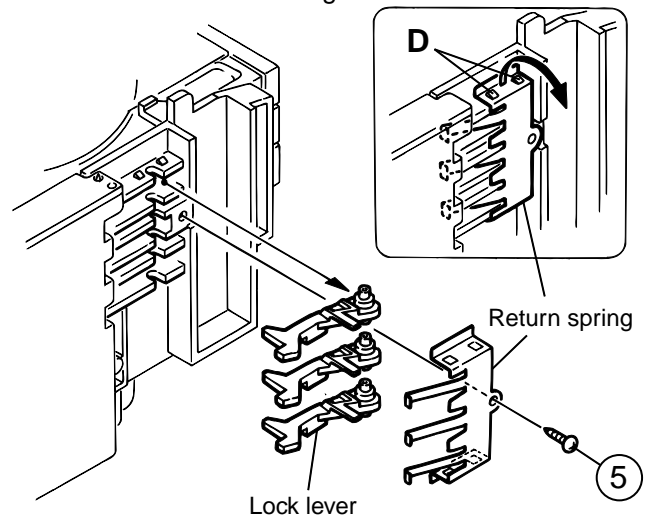

Fig.4
9. From the left side face of the chassis assembly, remove the one screw 5 retaining both of the return spring and lock lever. (See Fig. 4)
10. By removing the pawl at the section "D" fixing the return spring, dismount the return spring. (See Fig.4)
11. Remove the three lock levers. (See Fig.4)